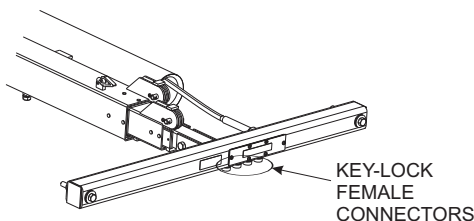

Figure 10. Location of Female Connectors
- a. Locate the 4 key-lock female 3-pin DIN connectors on the T-bar. See Figure 10.